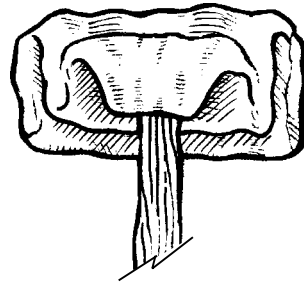

FIG. 4
5. At this point, refer to the directions by the canopy manufacturer for flaking and folding the canopy. After flaking and folding it should resemble (**FIG. 4**).
6. Stack the canopy in "S" folds as shown in (FIG. 4).